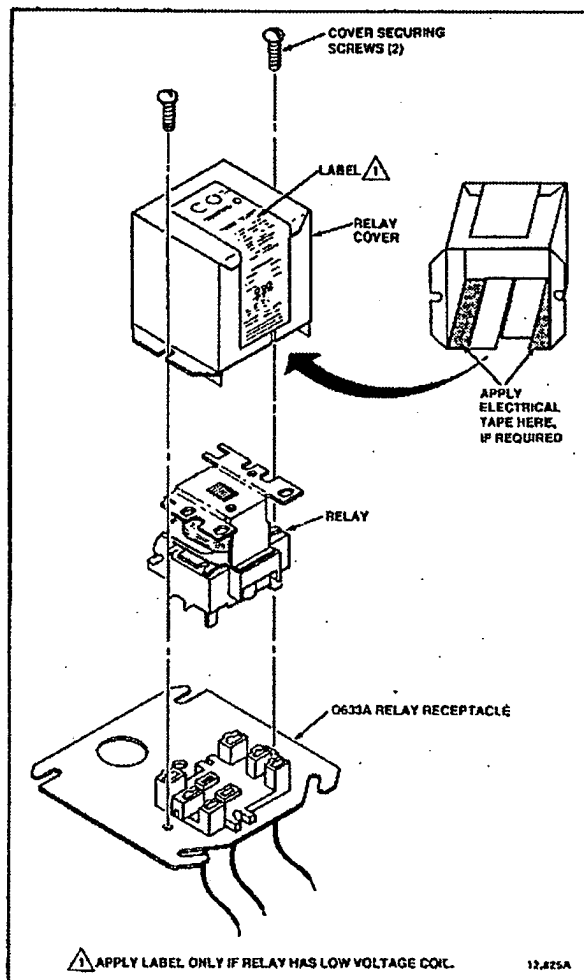

Fig. 6—Mounting and wiring relay to Q633A Relay Receptacle.
**NOTE:** If a relay with line voltage coils is used in the Q633A, apply electrical tape to the inside of the metal relay cover as indicated in Fig. 6.